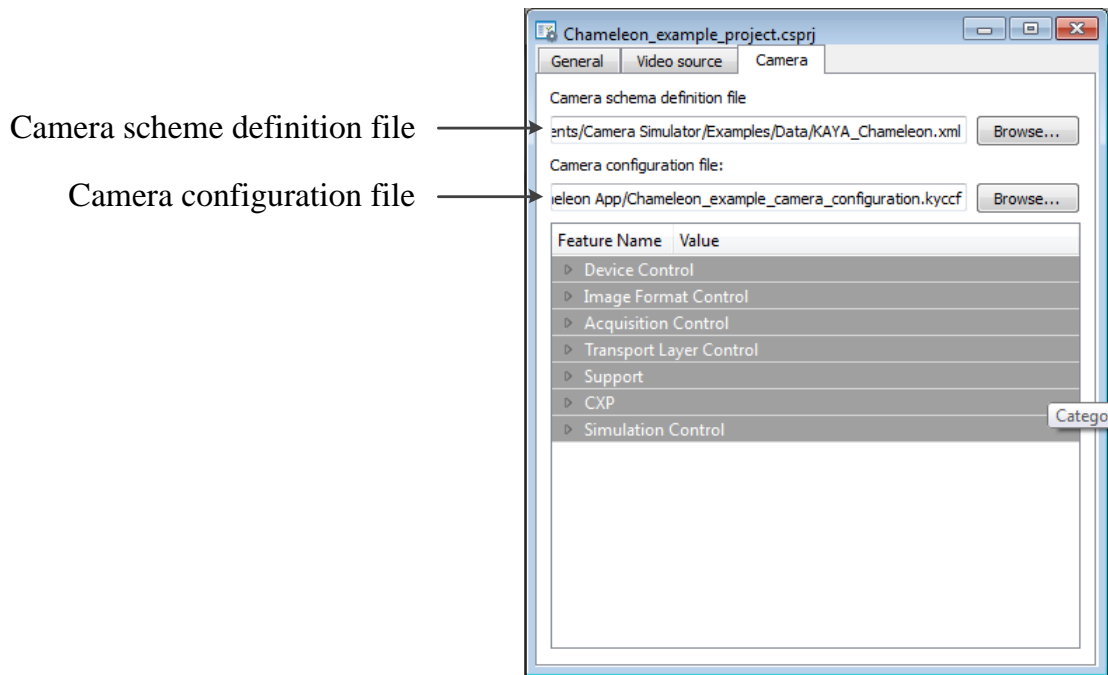

Figure 6 : Camera project navigator tab
3. A Camera tab enables configuring the camera GenCam parameters listed in the chosen XML file. It also enables specifying a camera configuration file that will store the values for all the GenCam parameters (file extension .kyccf). The camera tab is shown Figure 6.